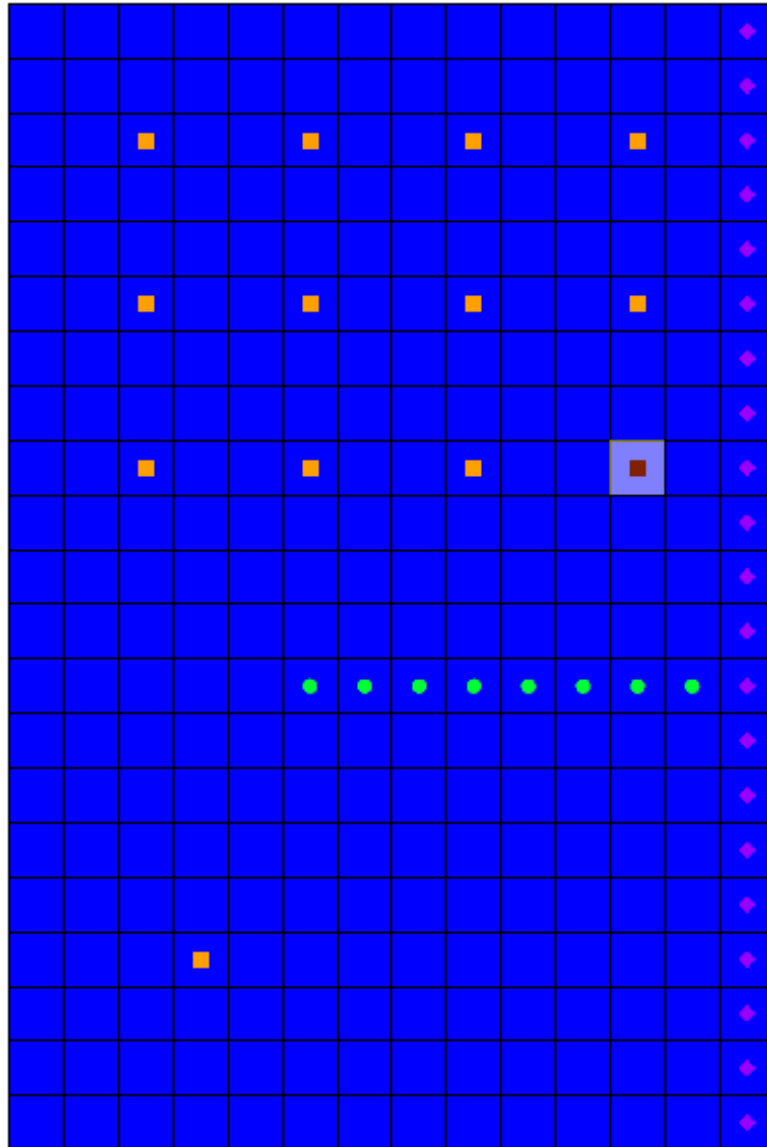

Figure 14 MNW2 boundary condition cell ($IJK = 9, 12, 1$, $ID = 124$)
5. Select the bottom-right well cell (Cell ID 124, highlighted in Figure 14), right-click on it, and select **Sources/Sinks...** to bring up the *MODFLOW Sources/Sinks* dialog.